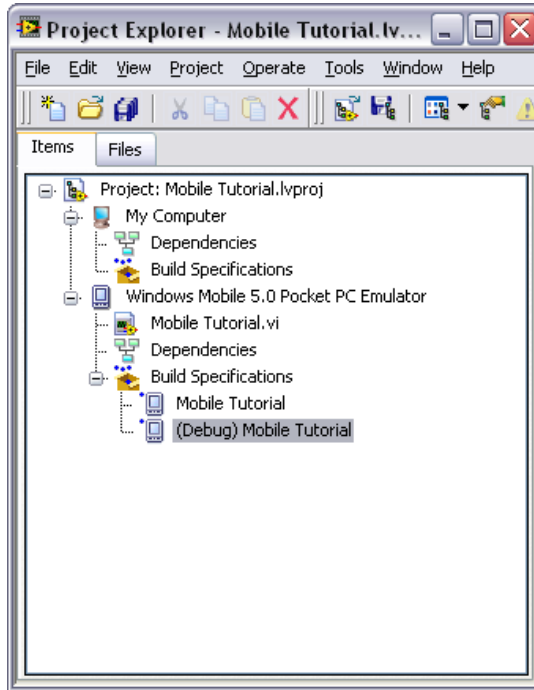

Figure 8. Two Build Specifications in the Project Explorer Window
7. Click the **OK** button. The build specification you just created appears in the **Project Explorer** window as shown in Figure 8.